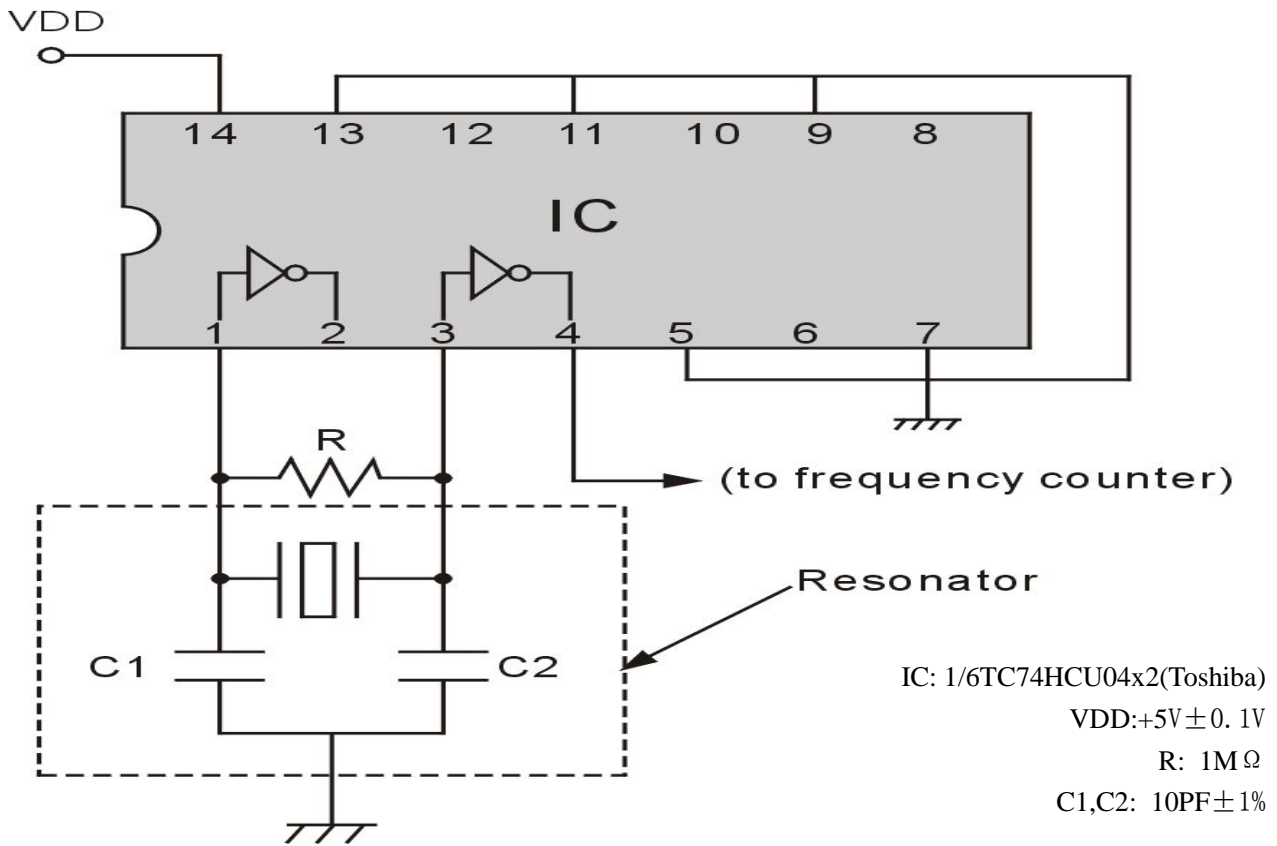
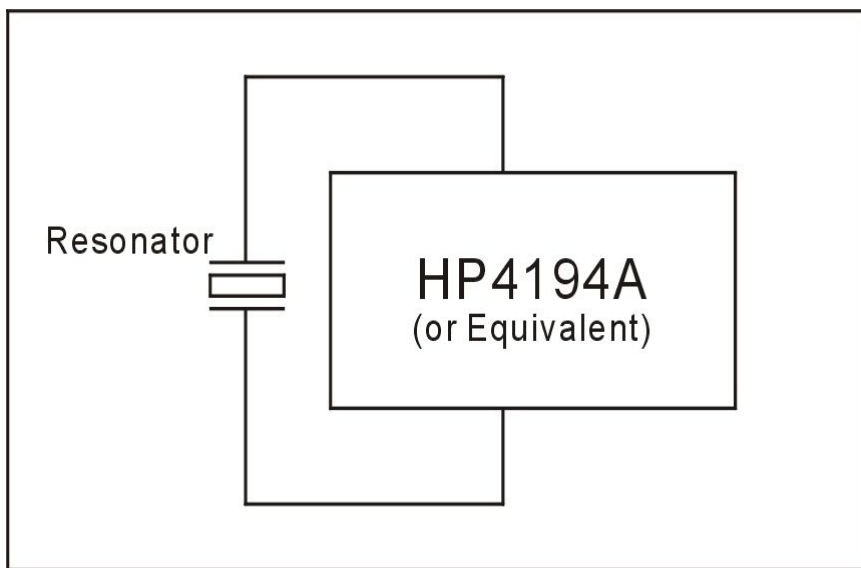

Figure 1. Test Circuit for Oscillating Frequency
Figure 2. Measurement for Resonant Impedance
The MHZ ceramic resonator must meet the following performance when tested in the circuit indicated in figure 1 and figure 2.
- 7-4. Irregular or stop oscillation may occur under unmatched circuit conditions. And it shall be noted that oscillating frequencies of the ceramics Resonator may drift depending on IC applied (the type names, the manufacturer) and capacitance of external capacitors (C1,C2) and the circuit design in figure 1.